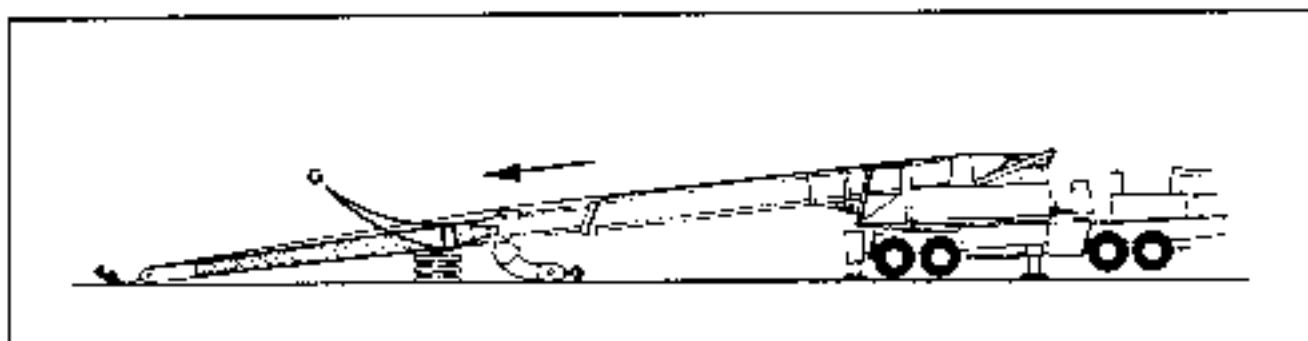

Fig. 4-18
Step 8: Reposition the top section on blocking as shown in Fig. 4-18. The bottom lugs at "G" should be about 30' (9.0m) off the ground and 20 ft. (6.1m) from the rear of carrier.